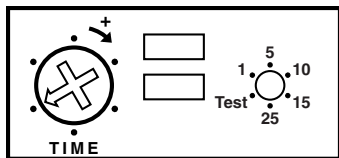

Figure 4 - Control Panel
- For test purposes, use a small, phillips screw-driver to turn the TIME control to the TEST (5 second) position (see Figure 4). Turn the power back on at the circuit breaker.
There are 6 preset selections for the amount of time the lights stay on: Test (5 seconds), 1, 5, 10, 15, and 25 minutes. Use a small, phillips screw driver to adjust the TIME control (see Figure 4). Turn the TIME control until it “snaps” into the desired time position.